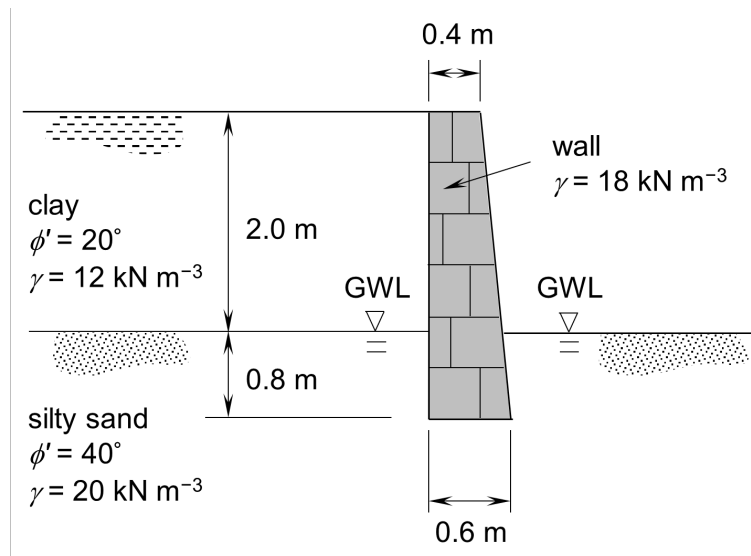

Fig. 1
3 Figure 1 shows a cross section through a masonry retaining wall. The blocks of the wall are 'dry stacked,' meaning that no mortar is used, and the unit weight of the wall is $\gamma = 18 \text{ kN m}^{-3}$. The soil consists of clay overlying silty sand, and the groundwater level (GWL) coincides with the top of the silty sand layer, as shown. Relevant properties and dimensions are indicated in Fig. 1. Assume that the wall is smooth, and clearly state any other assumptions necessary for your calculations.
- (b) Considering limiting equilibrium, evaluate the distribution of stress on the back of the wall (left face in Fig 1). Sketch the distribution. [25%]